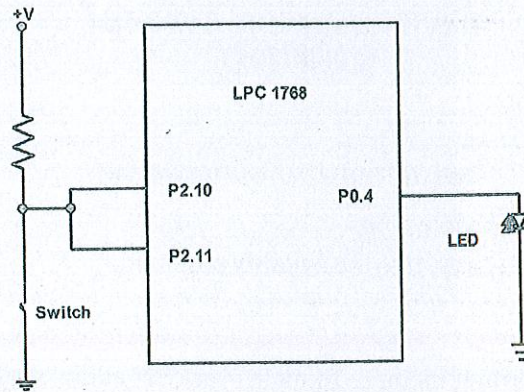

Fig.Q.5B
- 5B. For the circuit of Fig.Q.5B shown below, write an embedded C program using interrupts (Function-01) to turn ON the LED whenever the switch is pressed and turn OFF the LED whenever the switch is released.